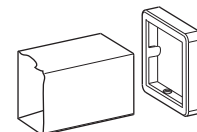

FIGURE 7
- 11** Slide the Escutcheons (6D) onto the Glass Shelf Frame (1) with the Set Screw holes on the same side as the Set Screw holes in the Glass Shelf Frame. (see Figure 7)
- Slide the Escutcheons onto the Horizontal Support Tubes (4) with the Set Screws on the same side as the Set Screw holes in the Horizontal Support Tubes.